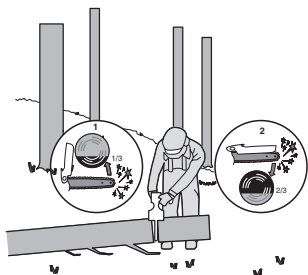

Figure 3
When the log is supported on one end, as illustrated in Figure 3, cut 1/3 the diameter from the underside (underback) (1). Then make the finished cut by overbacking (2) to meet the first cut.